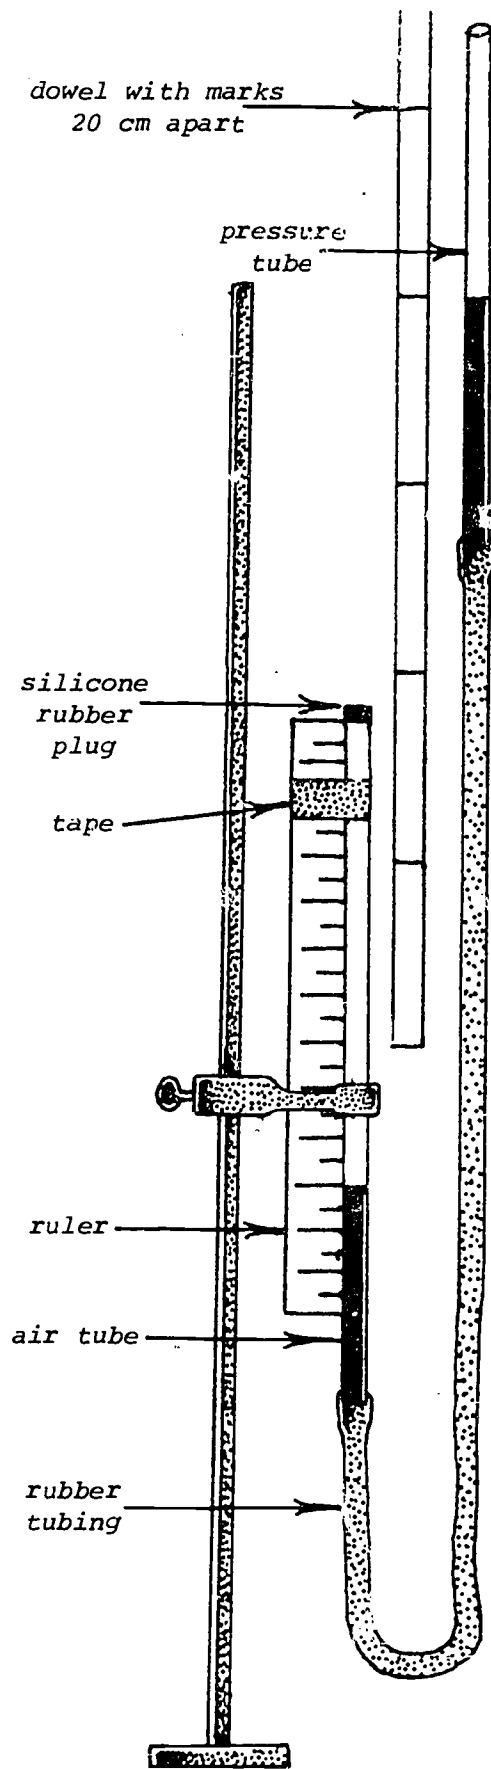

FIGURE 2: Final assembly of the apparatus.
7. When the cement had hardened, complete the assembly of the apparatus as shown in Figure 2 (on the following page). The ruler should be positioned so that the zero point coincides with the top of the air column (i.e., the bottom of the cement plug).